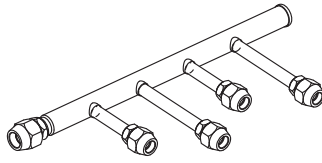

Fig.3
- The DBRD-04S structure is displayed in Fig.3.